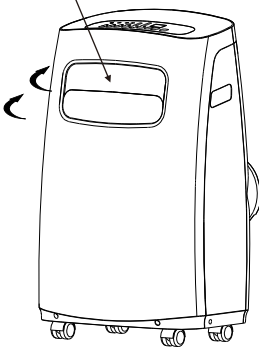

Fig.4
• Adjust the air flow direction automatically (Fig.4):